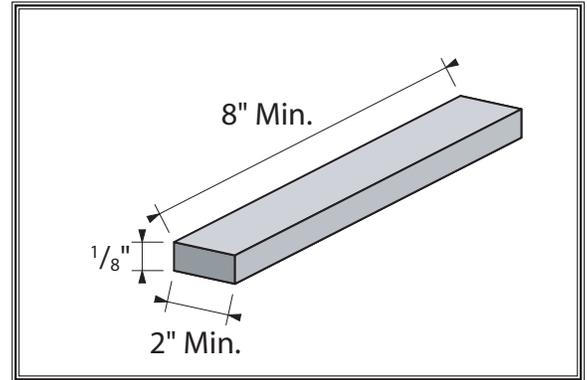

Figure 10. Minimum dimensions for sanding.
- **Workpiece Dimensions:** DO NOT sand boards less than 8" long, 2" wide, or 1/8" thick. Doing so will increase the risk of damaging the workpiece or the sander (see Figure 10).